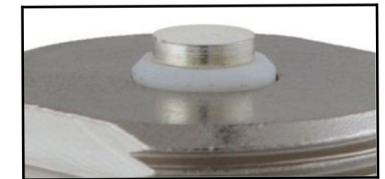

Figure 5
- d. From the top side, firmly thread and torque the NMO Mount Nut to the Threaded Mount Body. **Important:** Verify O-Ring is properly located within O-Ring groove in NMO Mount Nut. Using an adjustable wrench from above the mounting surface and a 12mm open end wrench from below the mounting surface, securely fasten NMO Mount Nut to the Threaded Mount Body with firm torque. NMO Mount Nut is properly seated, when Contact Pin and Dielectric Insulator are exposed as shown in Figure 5.